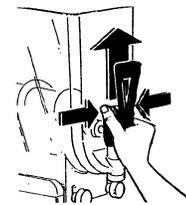

FIGURE 20
26. Remove the tap from its seating, press the two clamping wings at the same time (FIGURE 20) and push upwards.